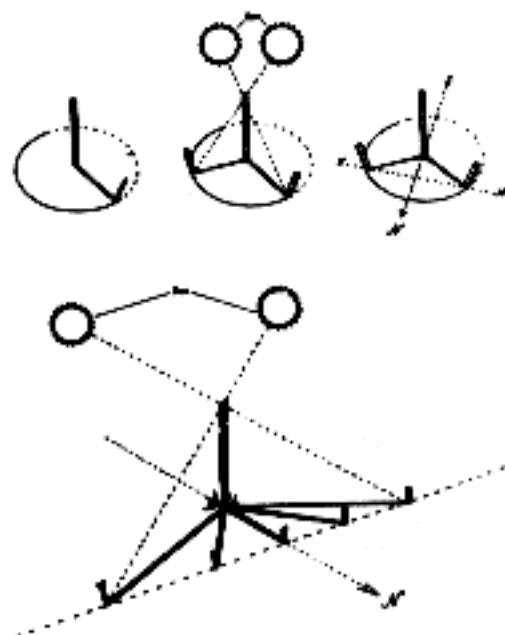

Figure 11-1. Shadow-tip method.
a. Use the sun to find approximate true north. This method can be used any time the sun is bright enough for a stick to cast a shadow. Find a fairly straight stick about three feet long and follow these steps (figure 11-1).